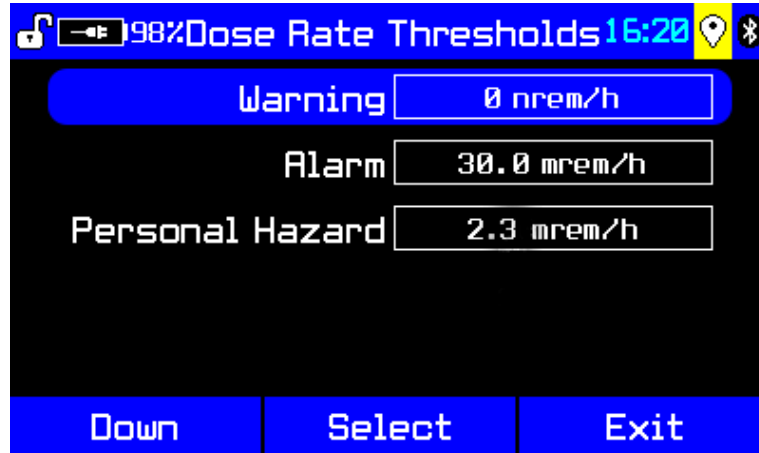

Figure 2-19: New value accepted
- Press the **M** key to accept the new value and return to the original screen (Dose Rate Thresholds in this example; see Figure 2-19).